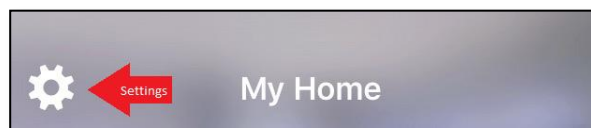

Figure 1- Settings Icon
1. In the Lutron Caséta App, please navigate to the Settings, which is the small gear icon located on the top left side of the app (Figure 1).